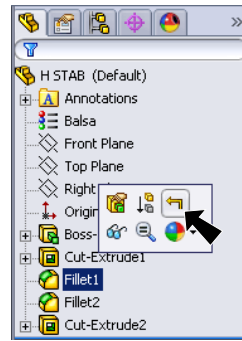

Fig. 39
Step 2. Roll the rollback bar to below the **Cut-Extrude1**. To rollback, click **Fillet1** in the Feature Manager and click **Rollback**  from the Content toolbar, **Fig. 39**.